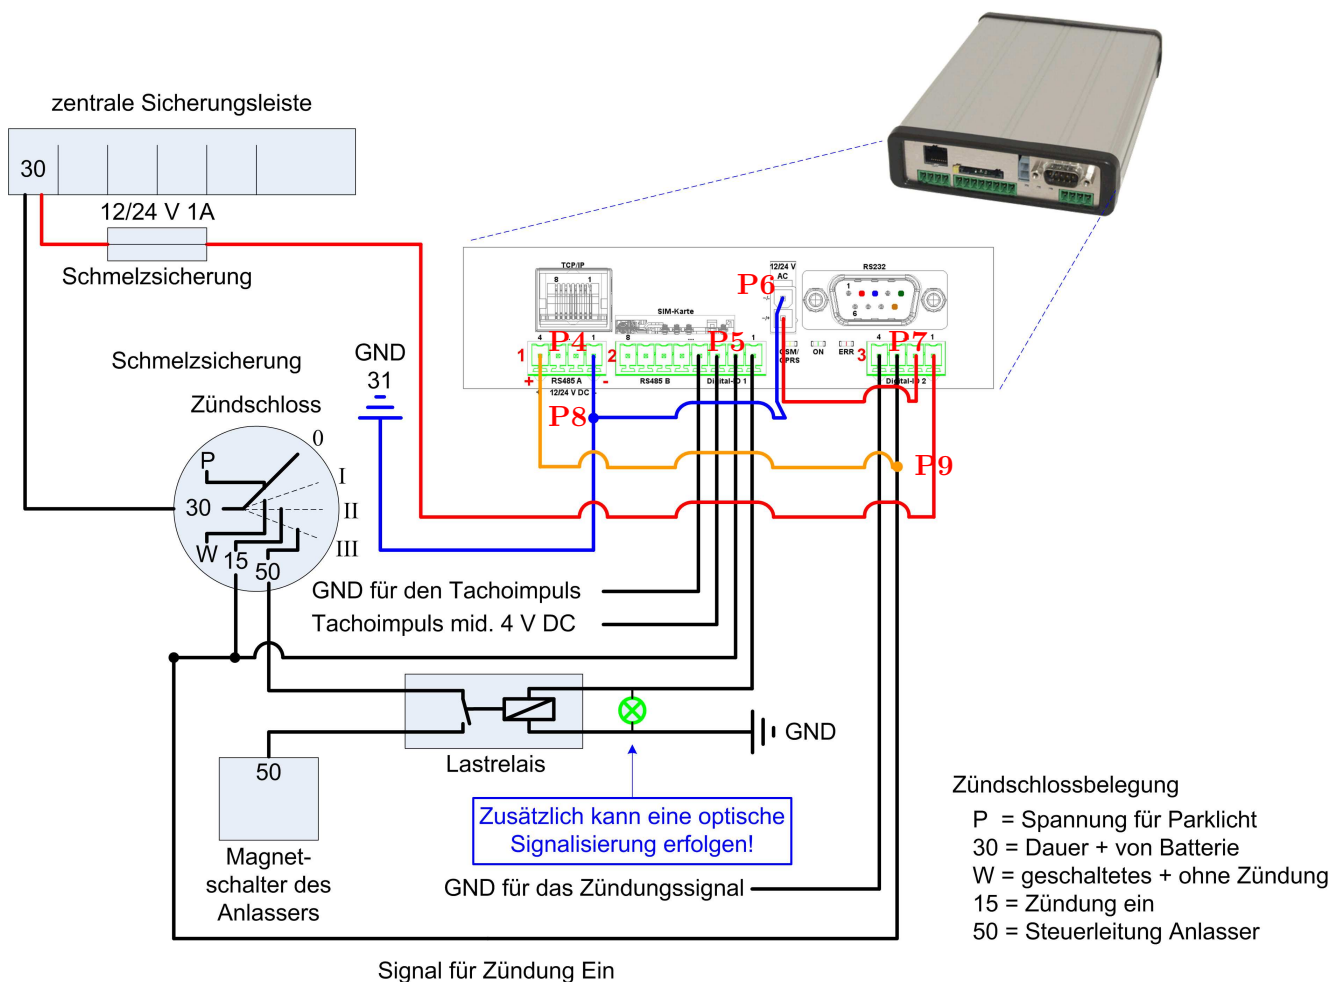
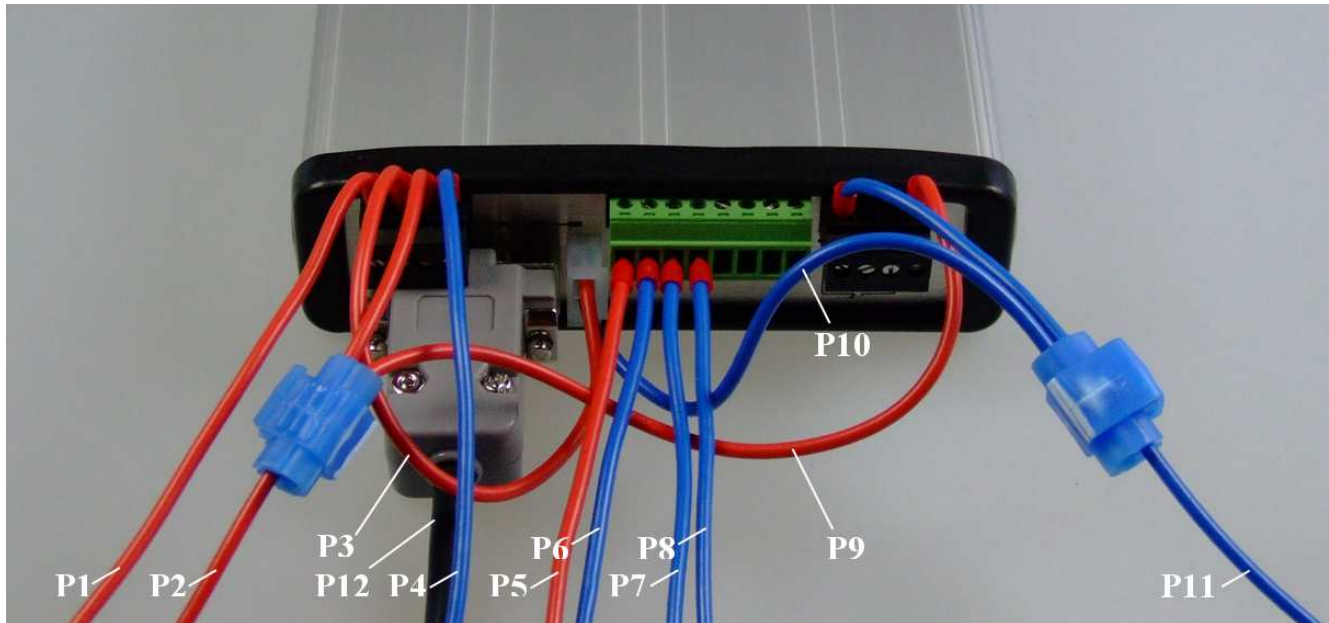

Figure 9: Terminal assignment
Figure 10: Wiring of Mobil-MasterIV
- ▶ **All connection cables**, laid to the clips **P4**, **P5** and **P7** (in figure 9) **have to be provided with ferrules**, see figure 10.
Maximum one cable per each clip of the Mobile-MasterIV has to be applied. Otherwise you should use luster terminals to centre several cables to one common cable (**max.0,75mm²**)! Use ferrules for each cable (see figure 10).